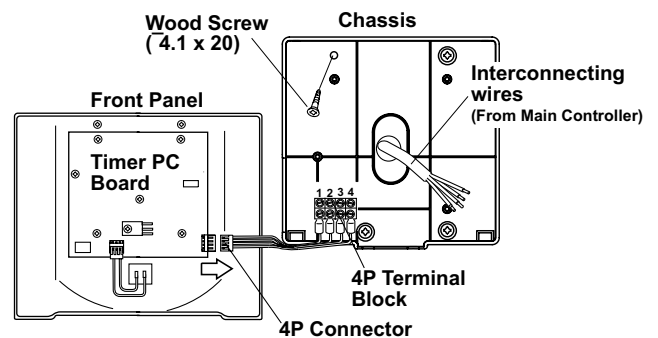

Fig.3-19 Attaching Sub Controller Chassis
2. Disconnect the **4P** connector from the timer PC Board. **(Fig.3-19)**
3. Route the interconnecting wires from the main controller through access hole of chassis and mount on the wall with four (ø4.1 x 20mm) wood screws. **(Fig.3-19)**
6. Reattach the **4P** connector to the timer PC Board **(Fig.3-19)**